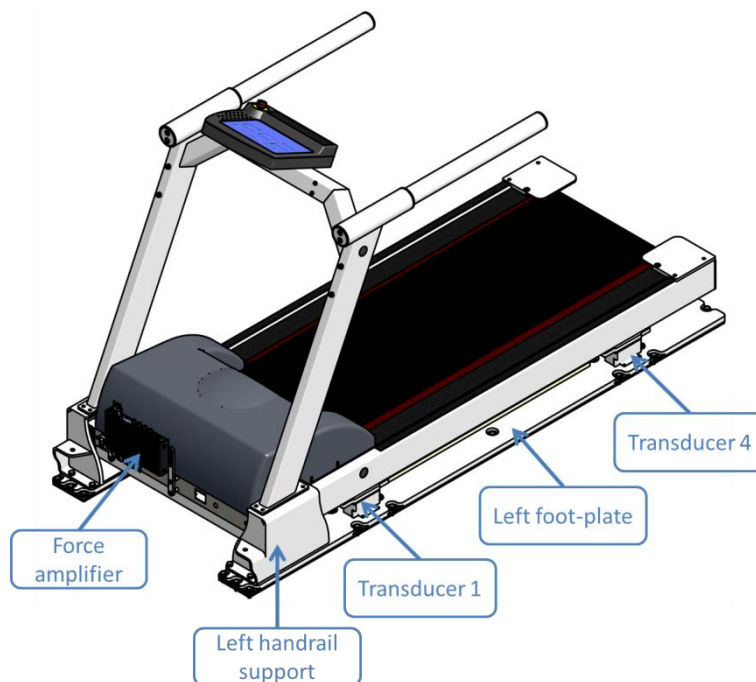

Figure 5. gaitway-3D instrumentation components.
- 1) The left and right treadmill supports that each includes two force transducers and a handrail-support fixed on a foot-plate anchored to the floor (Figure 5).
The force amplifier is composed of a powder coated stainless steel enclosure with connectors on the top and bottom panels. The force amplifier is mounted on two brackets located in front of the treadmill motor compartment (see Figure 5). Several versions of the gaitway-3D amplifier are supported (versions C, D and E). The amplifier interface connectors are described in next sections. Standard PVC or PUR jacket cables are used for interconnection between the amplifier and parts of the gaitway-3D instrumentation.